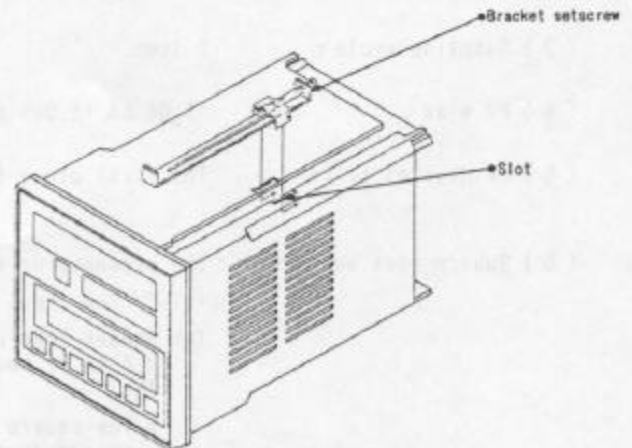

Fig.1
- ① Mount the panel cutout corresponding to the number of units on the panel by referring to panel cutout dimensions.
- ② Insert the instrument into the panel from the front side.
- ③ Engage each mounting bracket with the bracket insertion slots. (Fig.1)
- ④ Then tighten the mounting bracket setscrew from the rear with a Phillips screwdriver. (Recommended tightening torque : 3kgf·cm or less)
- ⑤ Engage the other bracket with the slots in the same way as in items ③ and ④.